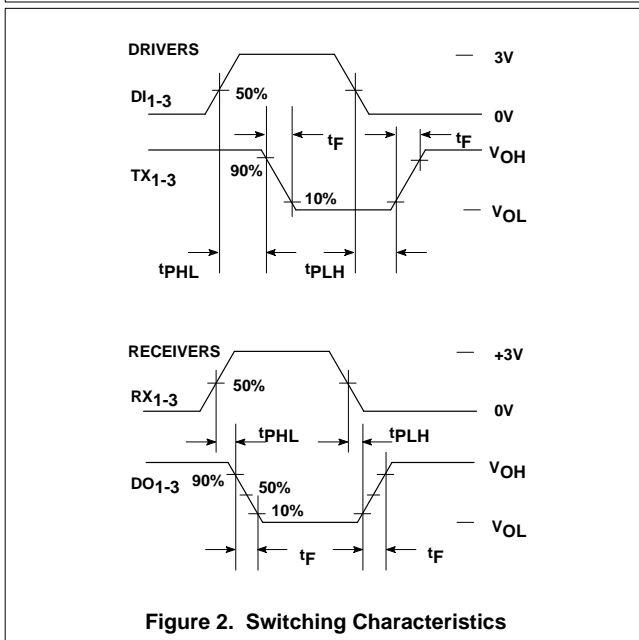

Figure 2. Switching Characteristics
**SWITCHING CHARACTERISTICS**Typical values are at  $T_A = 0$  to  $70^\circ\text{C}$ ;  $V_{\text{CC}} = +5\text{V} \pm 5\%$ , unless otherwise specified. (See Figures 2 and 3)